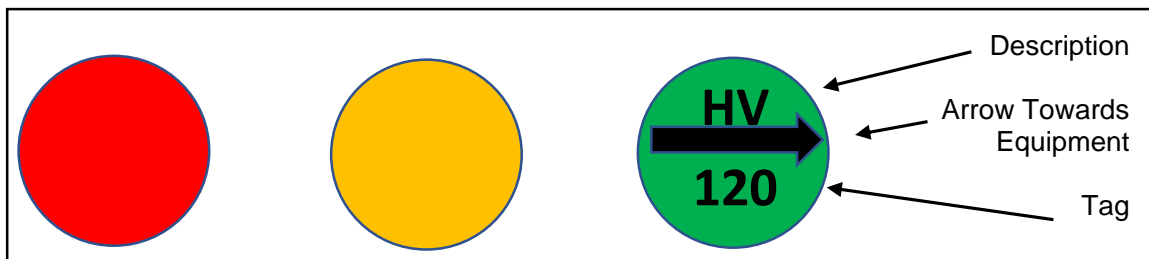

Figure 1
- d. Label shall follow the layout shown in Figure 1 and be oriented to indicate the equipment location. The tag number shall match the as-built drawings.